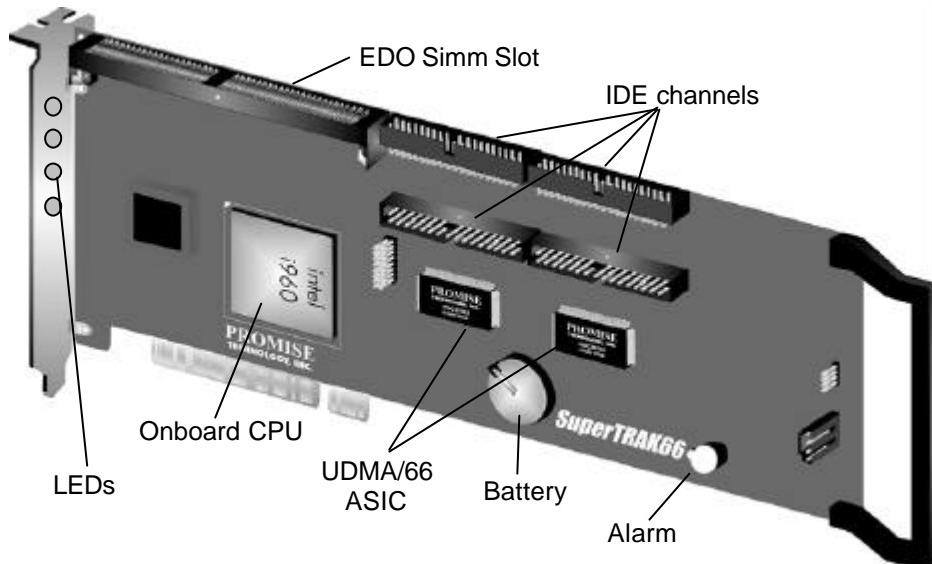

Figure 1: SuperTrak66 controller card
NOTE: The *SuperTrak66 controller card* ships with two removable protective labels that cover the audible alarm buzzer device (see Figure 1) and the battery (see Figure 1) which maintains the non-volatile RAM memory. These labels must be removed prior to installing the card.
Seen in Figure 1, the SuperTrak66 controller card has several physical features of interest for purposes of installation: A SIMM socket for EDO memory (minimum 8MB required), 4 IDE channel connections (1 "master" drive per channel), an alarm buzzer, a battery, and 4 LEDs on the card's backplane.
- 1) Install EDO memory into the SIMM slot at SIMM1 (see Figure 1). The minimum memory requirement is 8MB. For optimal performance, Promise recommends at least 16MB. Some units may ship with 16MB memory.
- 2) Remove protective label for 3V (CR2032 or compatible) battery shipped with the card (see Figure 1) that supports NVRAM.
- 3) Remove protective label for audible alarm buzzer (see Figure 1).